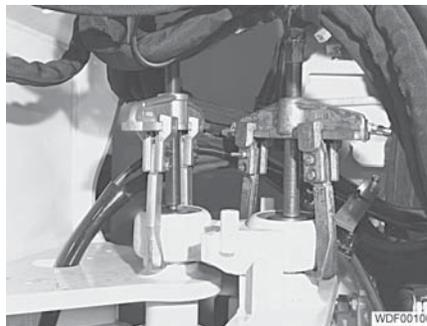

Fig. 290 Removing the self-aligning bearing
- Pull up the self-aligning bearing using a suitable tool (Fig. 290).